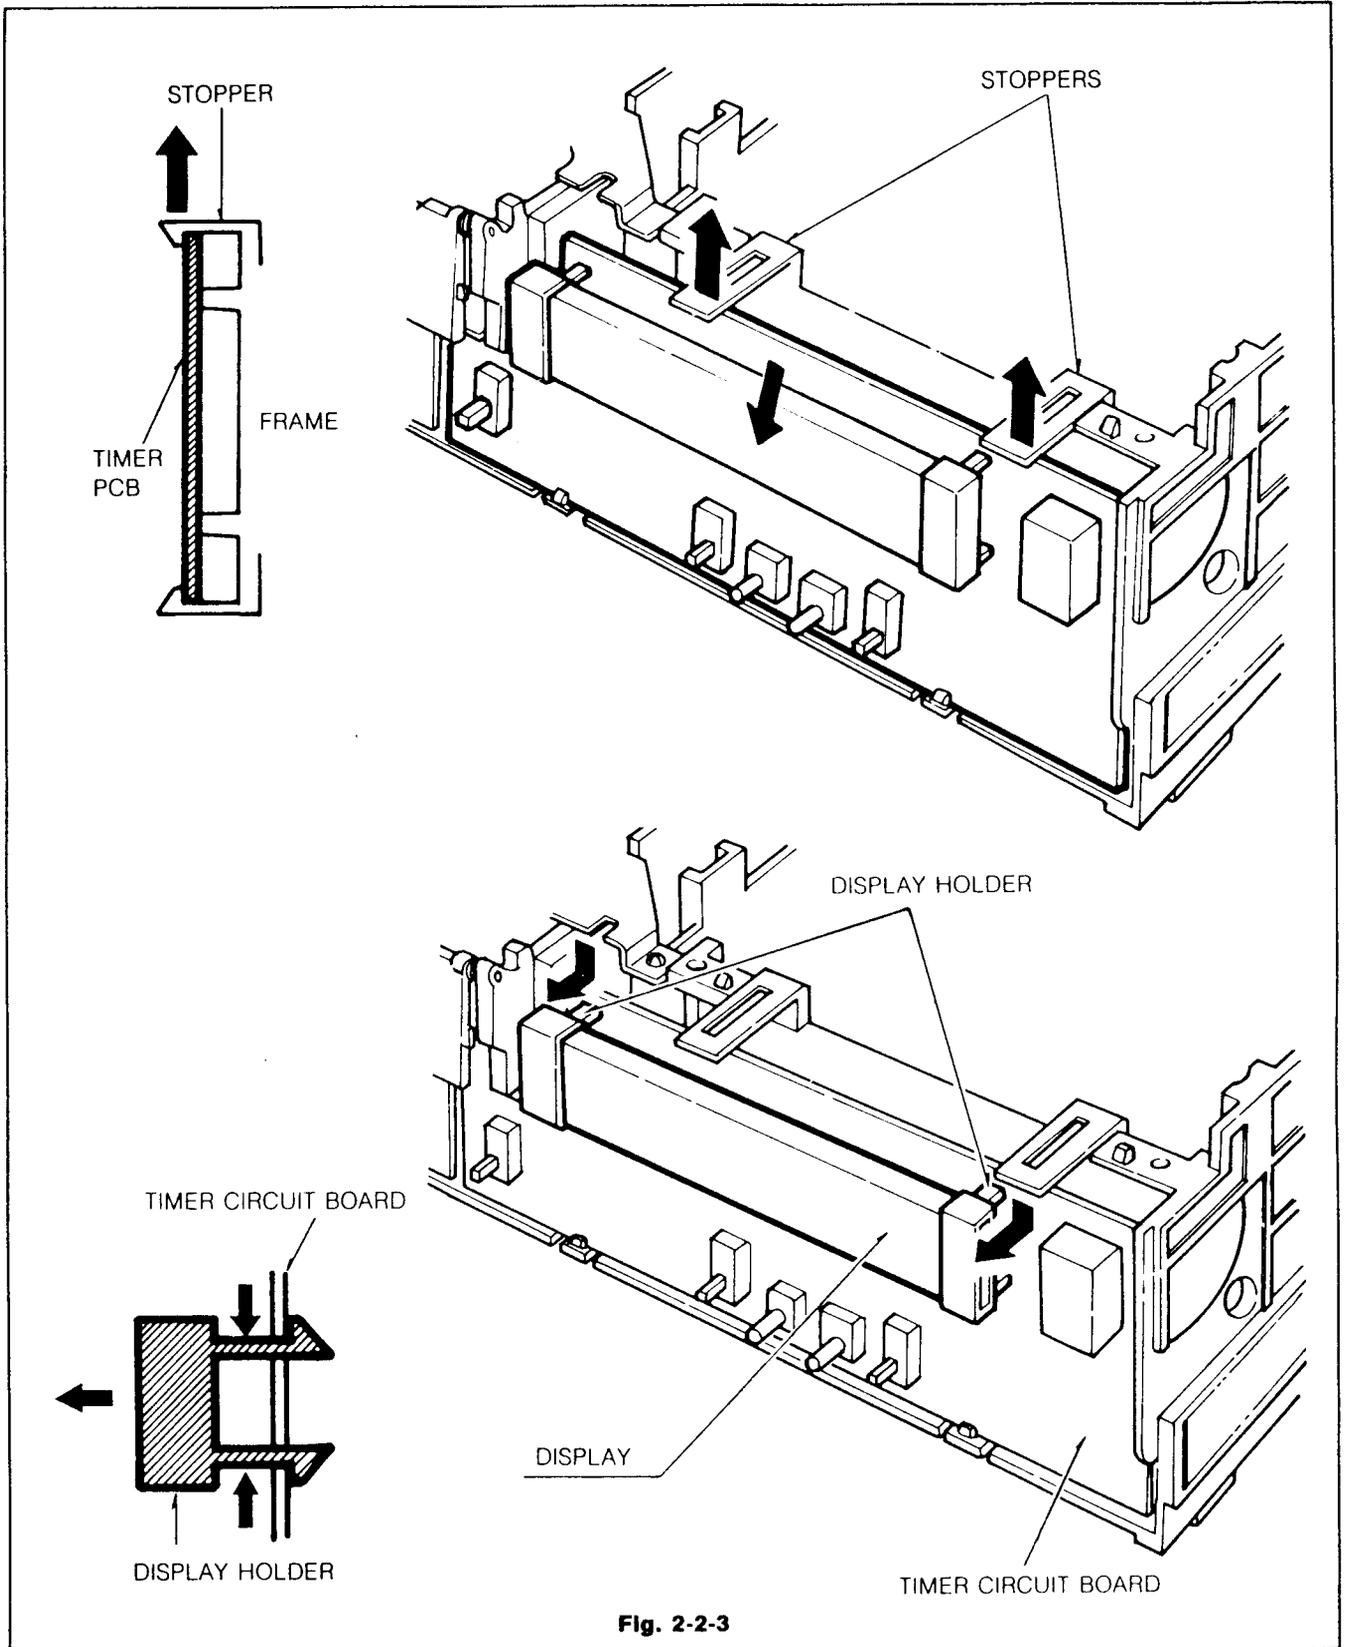

Fig. 2-2-3
- A. Pull the P.C.Board toward you while pressing two stoppers in the direction of the small arrows to disengage, and remove the P.C.Board. (See Fig. 2-2-3)